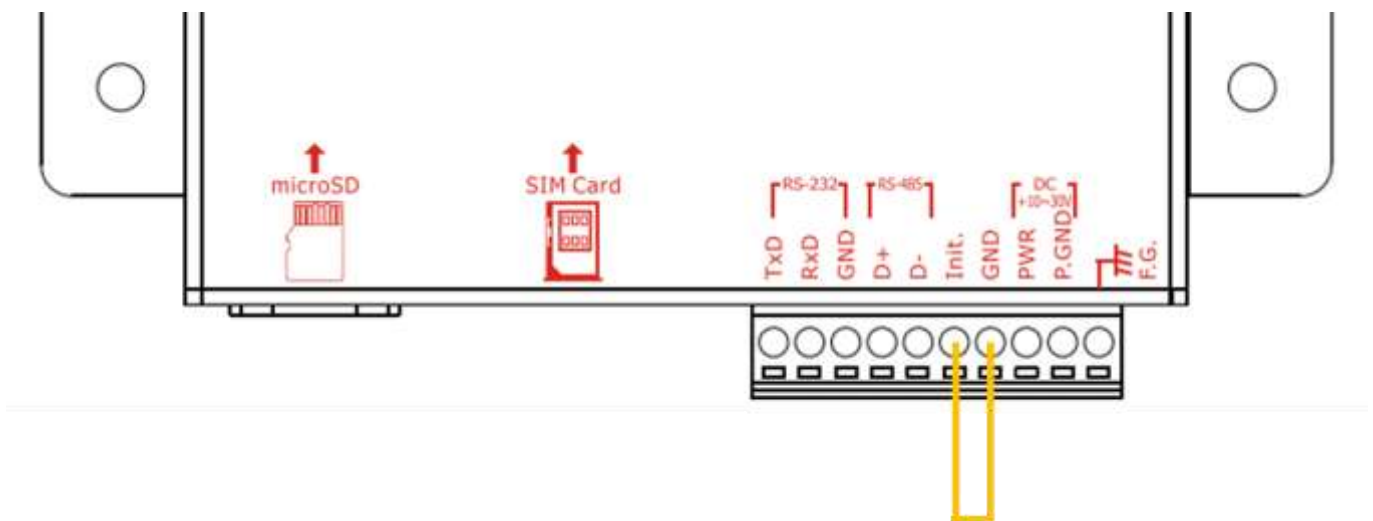

Figure 7.10.8
D. After the Utility setting is completed and written to the GTP-541M, confirm whether the 4th Pin and the 5th Pin of the GTP-541M have been removed as shown in Figure 7.10.8, and restart the GTP-541M.